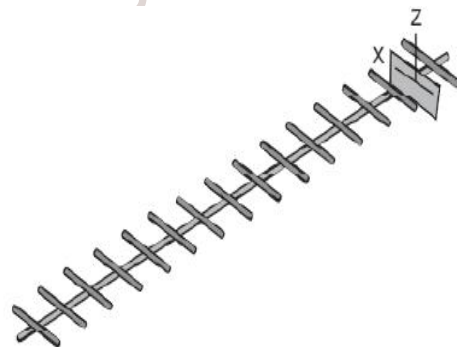

Fig 4.27: Yagi-Antenna model
- The Yagi shown here in Fig. 4.27 is built with one reflector (the bar behind the driven antenna) and 14 directors (the bars in front of the driven antenna).